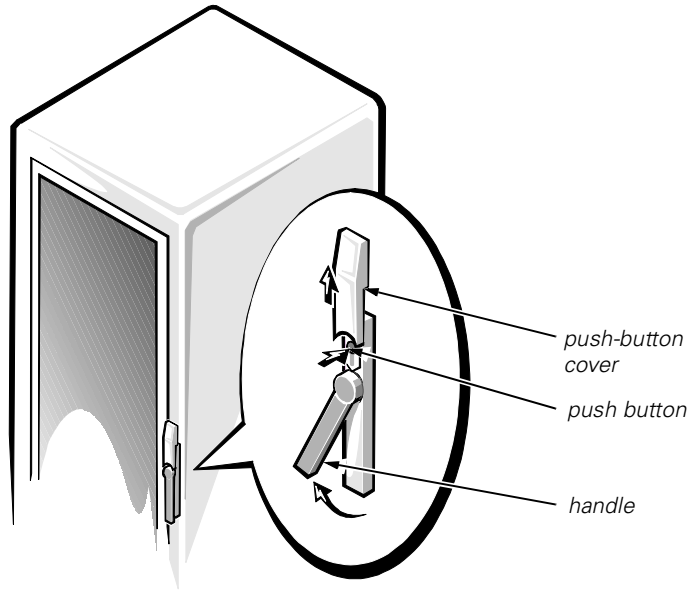

Figure 1-3. Opening the 42-U Rack Cabinet Front Door Latch
| Figure 1-3. Opening the 42-U Rack Cabinet Front Door Latch | 1-5 |
If you have a 42-U rack cabinet, slide the latch's push-button cover up as far as it will go, press the push button, rotate the handle clockwise until the latch releases, and then pull the door open (see Figure 1-3).
4. Close the door latch by rotating the handle counterclockwise until it stops, push in the handle until it locks in position, and slide the cover down over the push-button (see Figure 1-3).